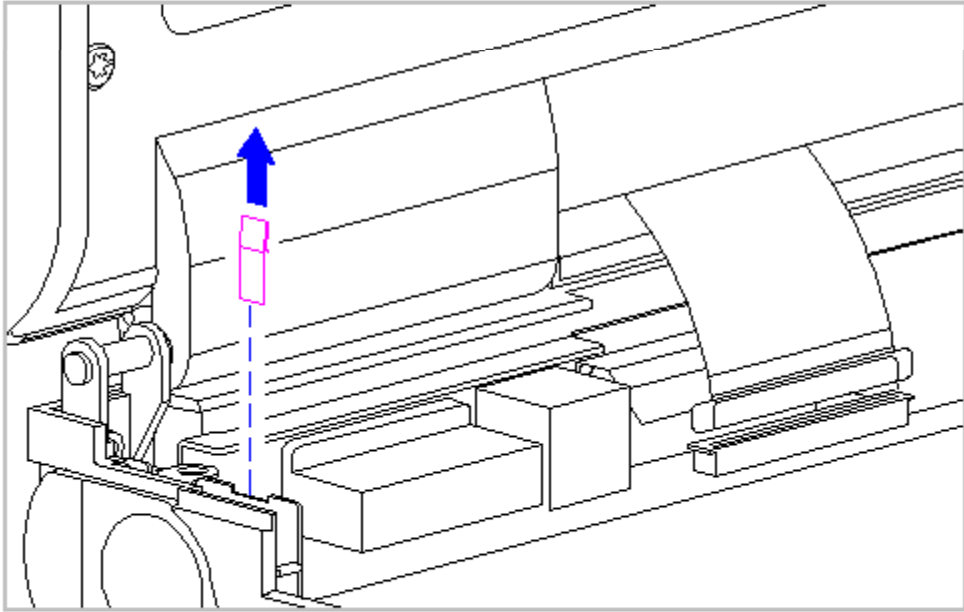

Figure 5-47. Removing the Left Clutch Ground Clip (All Models)
12. Remove the left clutch ground clip from the system chassis (Figure 5-47).